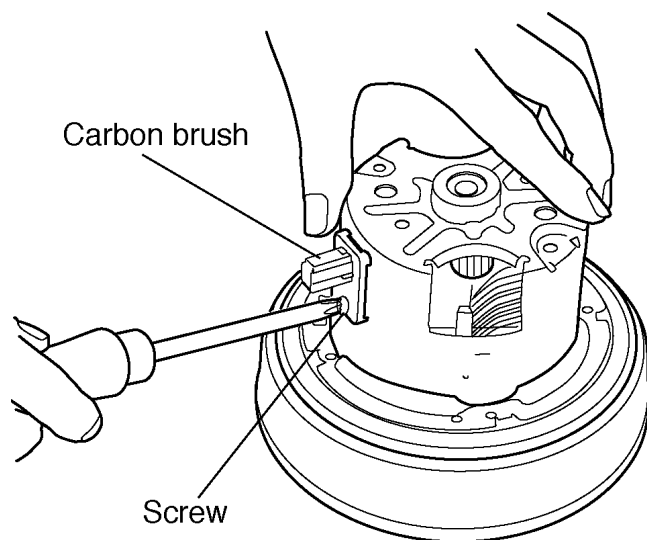

fig.9
3. Remove the screw from the carbon brush holder to take it out. (Fig. 9)